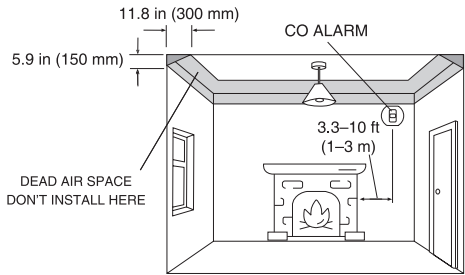

Figure 1: Installation in a room with a fuel-burning appliance
1.Installing a CO alarm in a room with a fuel-burning appliance (see Figure 1):